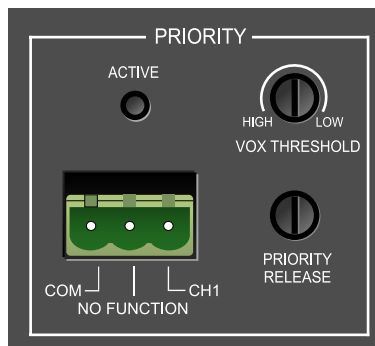

Figure 3.1 Priority Ducking Controls and Connectors
1. Connect a push-to-talk mic contact to the **Priority Connector** (Figure 3.1). Input 1 is the priority input for the amplified output, so Input 1 ducks the other inputs. Threshold of activation depends on input voltage. Ducking does not affect MOH outputs.